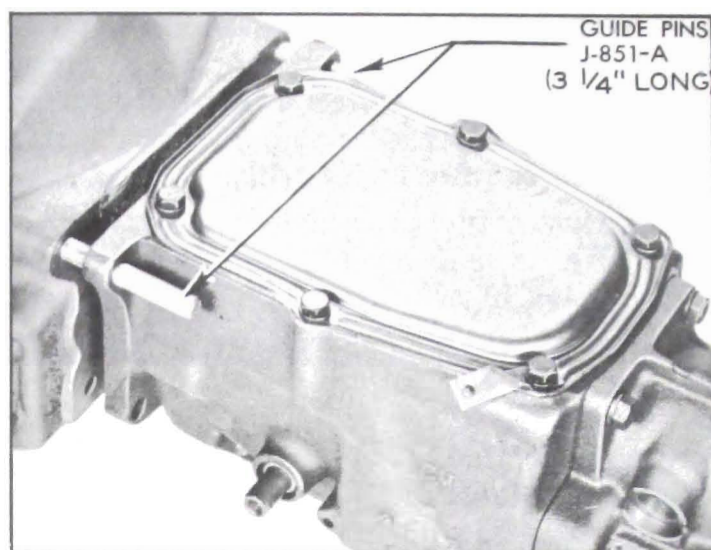

Figure 4-15—Transmission Guide Pins
10. Remove two upper transmission to flywheel housing bolts and install Guide Pins J-851-A to support transmission. See figure 4-15.
2. Make certain that front face of transmission case and face of flywheel housing are absolutely clean. Install Guide Pins J-851-A in upper bolt holes in housing (figure 4-15). Install a new transmission gasket. Make certain that spring washer is in place behind clutch release bearing support in housing.